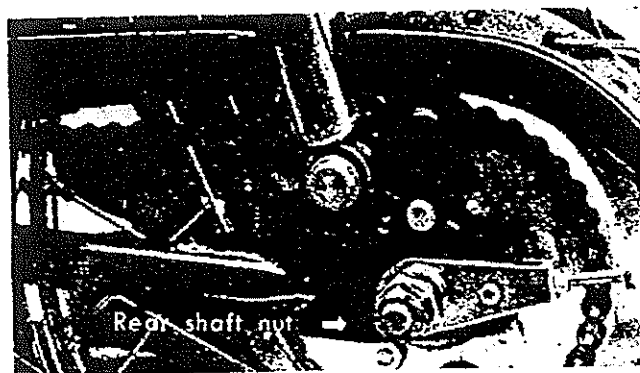

Fig. 40
- b) Remove the 8 mm nut, and take off tension bar from panel arm. (Fig. 40)